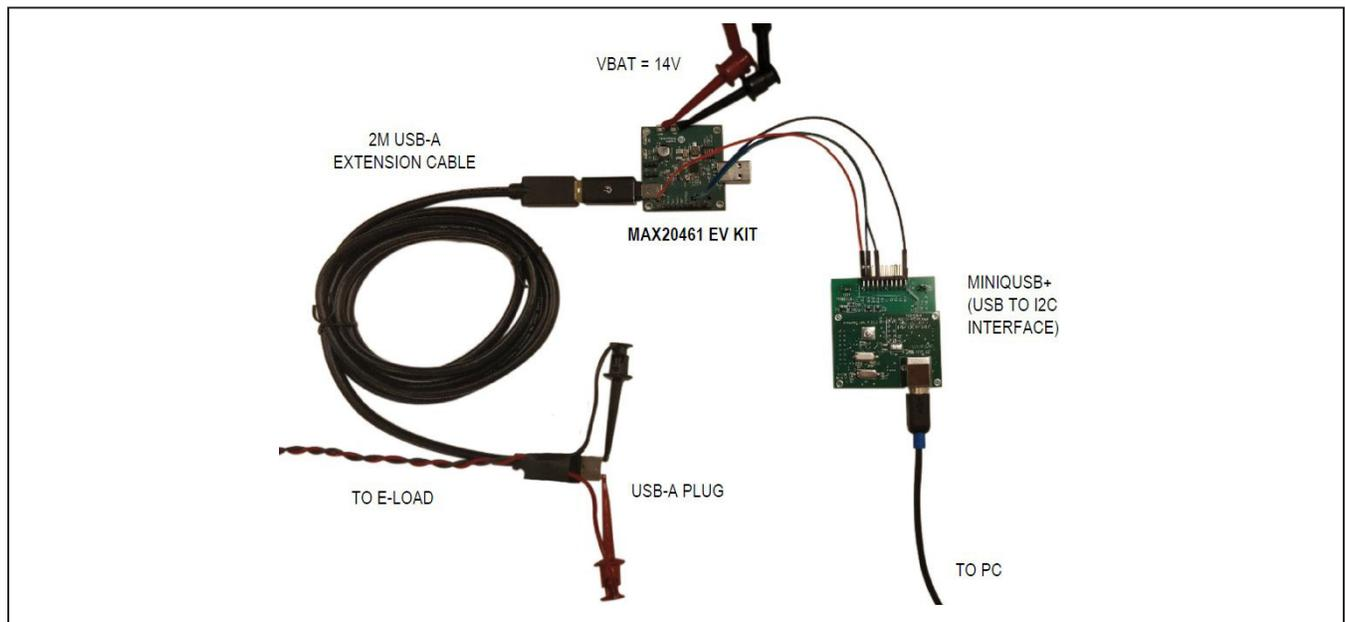

Figure 6. Cable Compensation Setup
See Figure 6 for illustration of the setup
- 1) Connect the 2m USB-A Extension Cable to the USB-C adapter as shown in Figure 6.